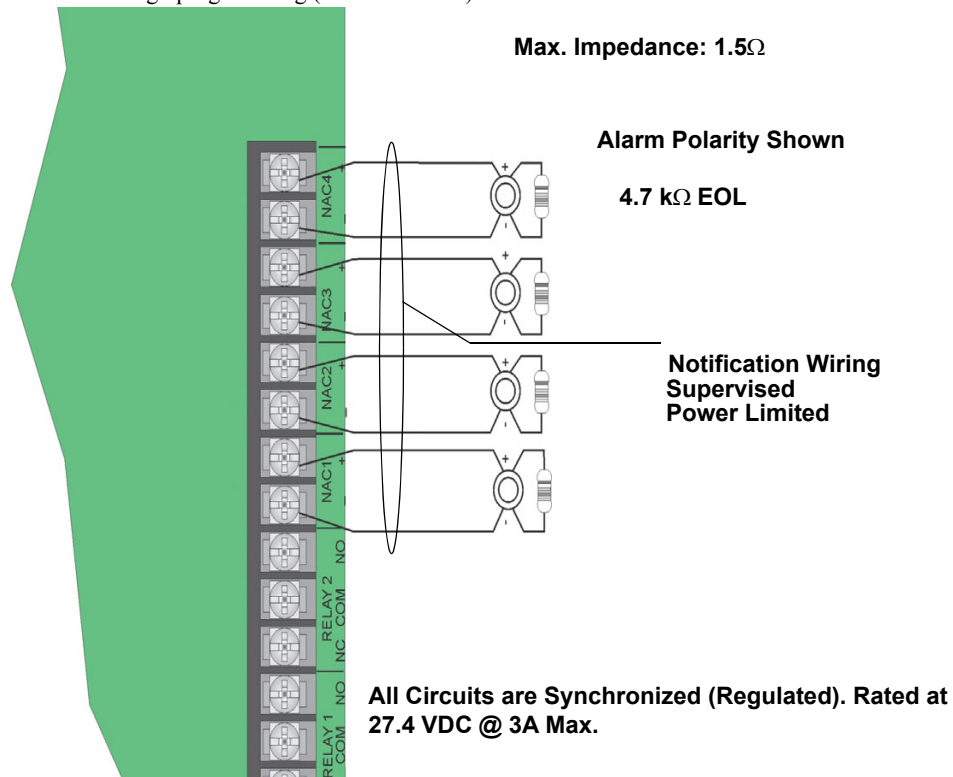

Figure 4.43 Class B Notification Appliance Circuit Wiring
1. Wire Class B Notification appliances as shown in Figure 4.43.